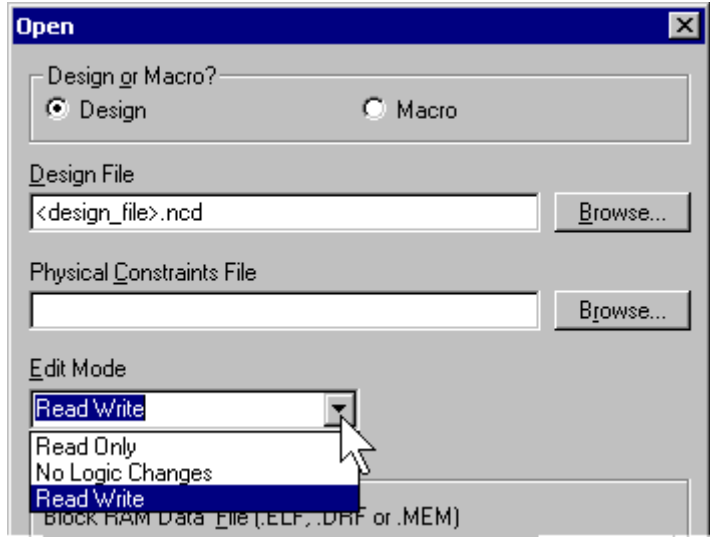

Figure 6: Enable User Editing in FPGA Editor
- Select **File → Open**. Select the \*.ncd file for the completed design. Set the **Edit Mode** to "Read Write" mode as shown in Figure 6.